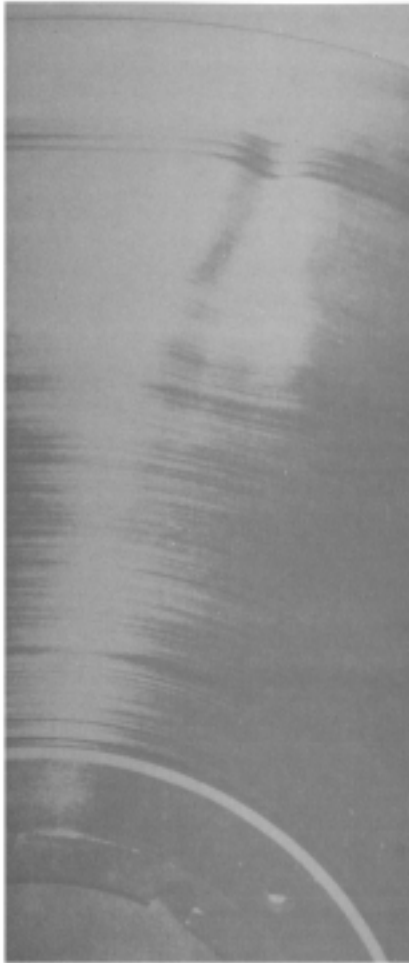

Figure 2-4.—Example of spoked tape pack.
Spoking happens when magnetic tape is wound onto the tape reel with the tension increasing toward the end of the winding. The higher tension on the outside of the tape pack causes the inner pack to buckle and deform. Spoking is also caused by the uneven pressures created when a tape is wound on a reel that has a distorted hub, or when the tape is wound over a small particle that is deposited on the hub. Figure 2-4 shows a spoked tape pack.
- Q-25. *A tape pack is buckled and deformed as shown in figure 2-4. What are three possible causes for this condition?*